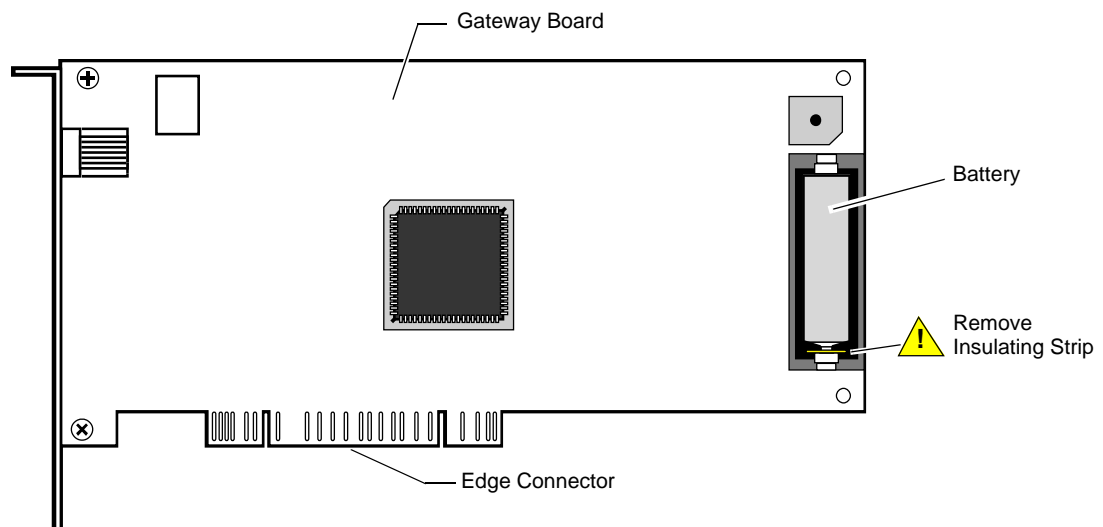

Figure 3.1 Installing the PC NFN Gateway Board
1. Remove insulation strip from between the battery and the terminal as shown in Figure 3.1.